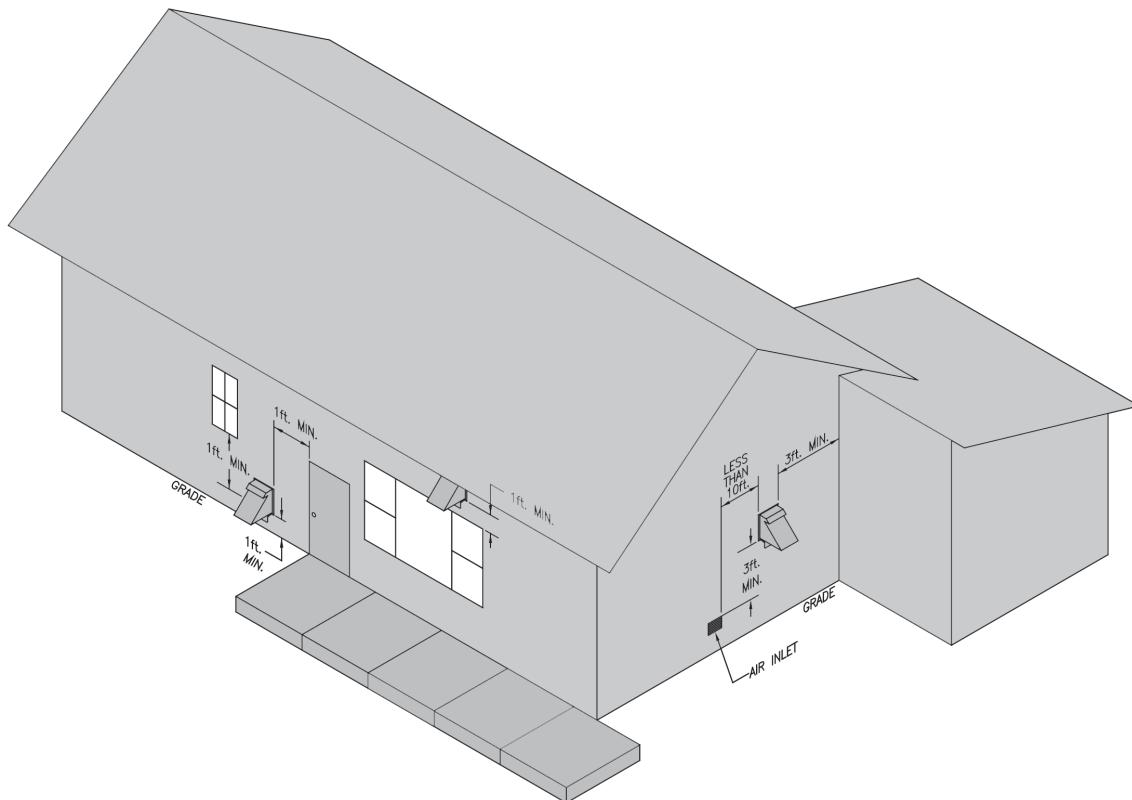

Figure 13: Vent Terminal Location
5. Locate the vent terminal so vent pipe is short and direct, and, at the place on exterior wall that complies with the minimum distances as specified in Figure 13 and listed as follows. The vent termination must be located (as measured to the bottom of vent terminal):